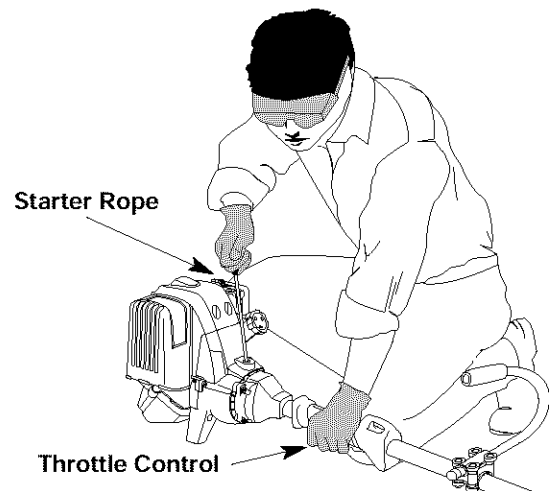

Fig. 13
WARNING: Avoid accidental starting. Remain in the starting position when pulling the starter rope (Fig. 13). The operator and unit must be in a stable position while starting to avoid serious personal injury.
7. With the unit in the starting position (Fig. 13) and the choke in the **FULL (A)**  position, pull the starter rope briskly 5 times. If the engine attempts to run before the fifth pull, proceed to step 8.
1. Release your hand from the throttle control (Fig. 13). Allow the engine to cool down by idling.